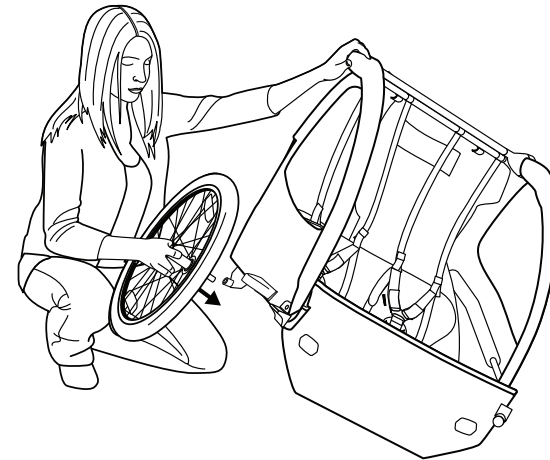

Figure 6
2. Insert wheel axle into axle receiver, and then release the button (Figure 6). Pull firmly on wheel to confirm the axle is fully engaged.